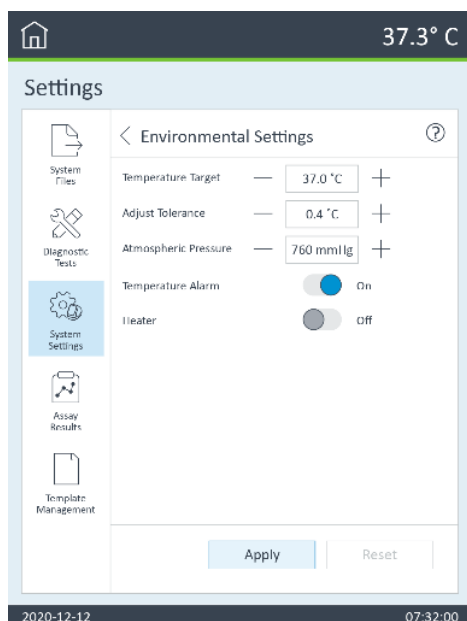

Figure 20. Temperature alarm window.
- b **Temperature alarm:** When enabled, the XF HS Mini Analyzer will automatically notify users (**Figure 20** on page 29) when the tray temperature of the XF HS Mini Analyzer is out of the acceptable range, as specified by the temperature tolerance above (only while running an assay on the XF HS Mini Analyzer).